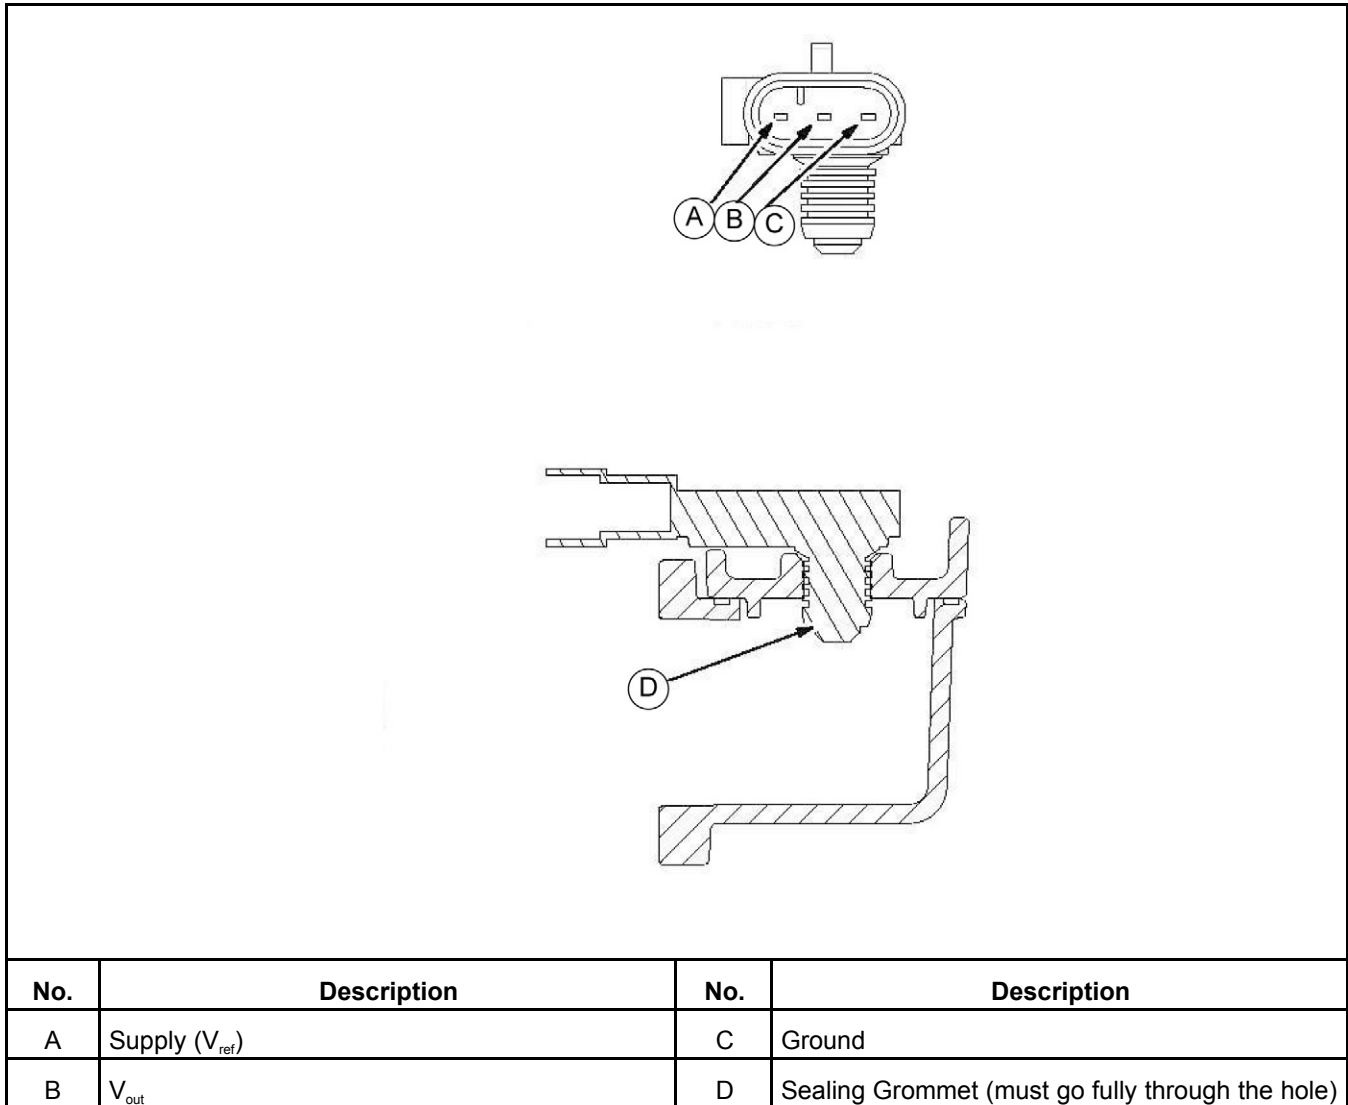

FIGURE 43. MAP SENSOR
3. When reinstalling the sensor, apply light motor oil (sparingly) to the sealing grommet and push it in by hand. Make sure the grommet is all the way through the hole so that it will not come out (Figure 43).